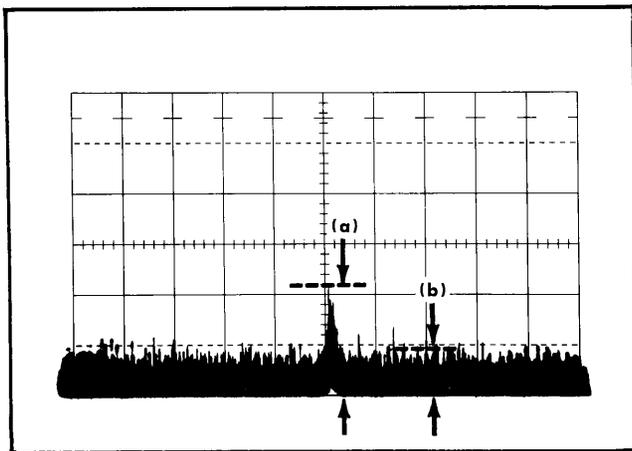

Fig. 4-3. Measurement of relative amplitude between an applied low-level signal and the noise of the system. (a) Amplitude of signal and (b) amplitude of noise.
4. Decrease the output amplitude of the r-f generator to -100 dbm and note the relative amplitude between the displayed signal and the noise displayed on the trace (see Fig. 4-3). The signal must be twice or more the amplitude of